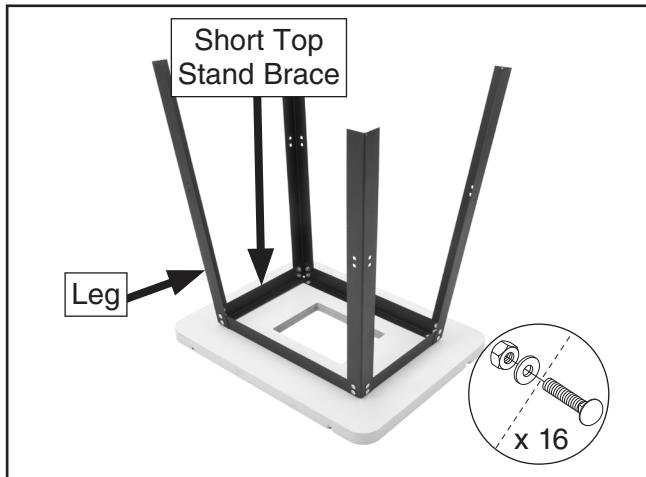

Figure 3. Stand legs and short top stand braces attached.
2. Attach each stand leg to a long and short top brace with (16) M8-1.25 x 10 carriage bolts, 8mm flat washers, and M8-1.25 hex nuts, as shown in **Figure 3**.